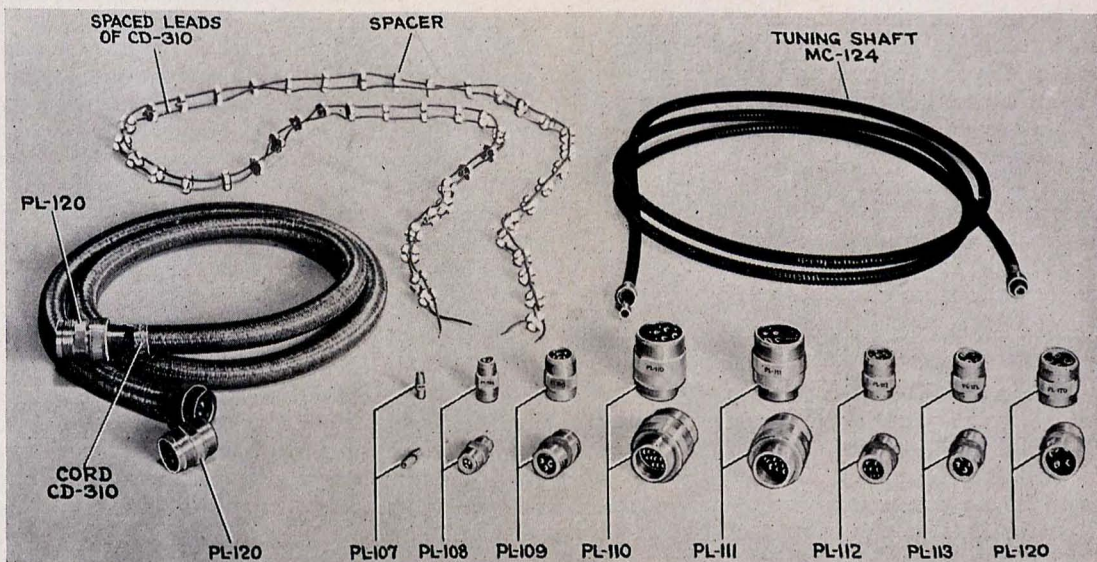

Figure 19—Tuning Shaft MC-124, Cord CD-310 and Plugs PL-107, PL-108, PL-109, PL-110, PL-111, PL-112, PL-113 and PL-120
- 2-8 **TUNING SHAFT MC-124.**—This consists of a laterally flexible steel shaft enclosed in a hose-type metal housing. It is used to couple the tuning control of Radio Control Box BC-311-A to the tuning drive mechanism of Radio Compass Unit BC-310-A. (See Figure 19.)
a. Plugs PL-107, PL-108, PL-109, PL-110, PL-111, PL-112, PL-113 and PL-120.—Radio Compass SCR-242 is equipped with 8 types of plugs. (See Figure 19.) Their types, description, and use (see Diagram Figure 28, Appendix), are as follows:
b. **Cord CD-310.**—A loop connecting cord is used to couple Radio Compass Unit BC-310-A to Loop Mounting GS-7-A or GS-8-A. The cord consists of flexible conduit fitted at each end with Plug PL-120. (See Figure 19.) The shield which is used as a ground return contains two spaced rubber covered flexible leads having a low minimum capacity. *The length of this cord is 6 feet and it is important that this length should remain 6 feet.* If the cord is too long, it may be coiled. Right angle fittings may be attached to the plugs provided the length of the lead is not increased over two inches per plug.